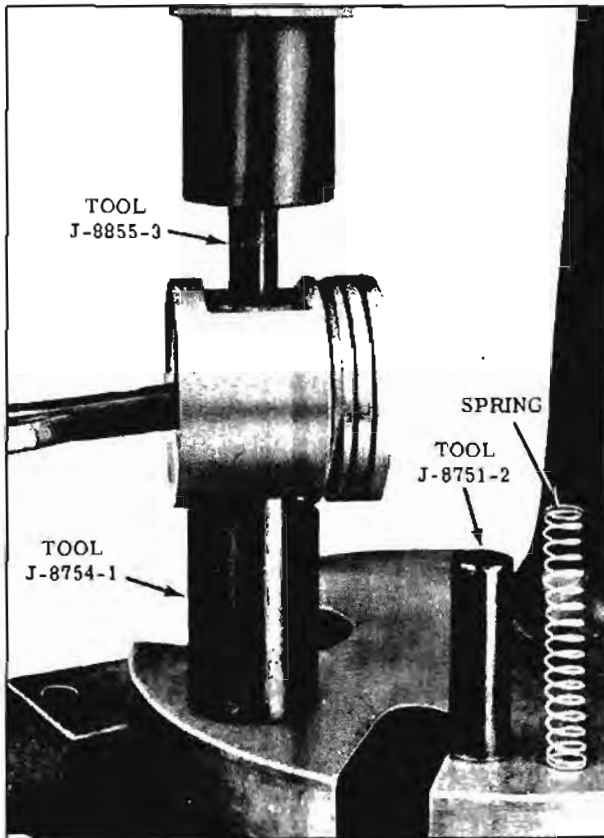

Fig. 8-132 Removing Piston Pin
2. Place Remover Tool J-8855-3 in piston pin as shown in Fig. 8-132, and press pin out.